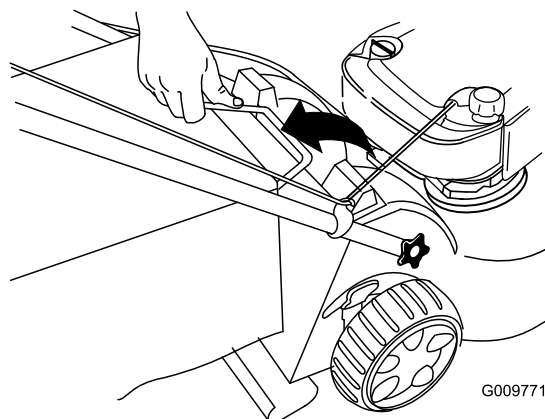

Figure 32
2. Lift the grass-bag handle out from the grooves at the top of the machine and remove the bag from the machine (Figure 32).